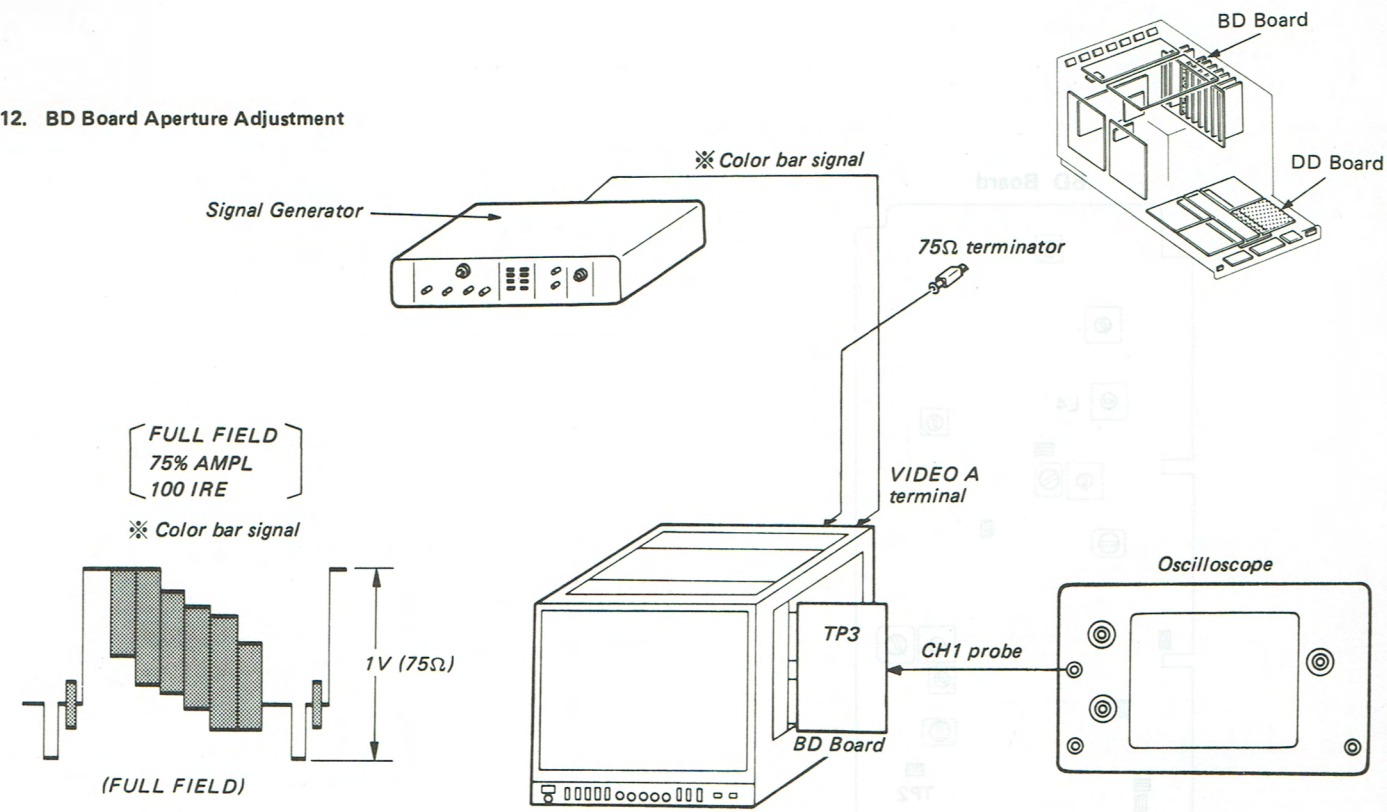

Fig. 12-1.
1. Connect as shown in Fig. 12-1.